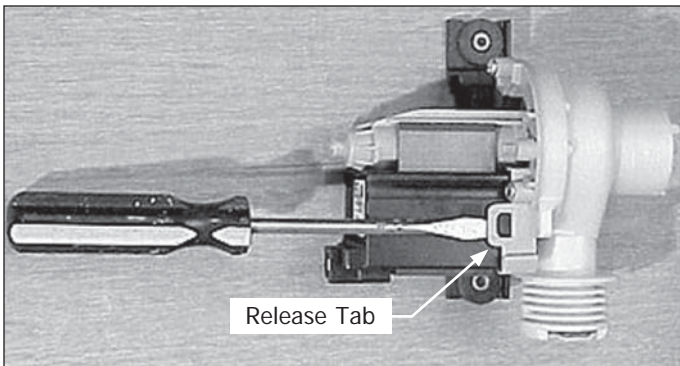

Figure 4-75.
3. Release the tab on each side of the motor and pull back to remove the armature. (See Figure 4-75)